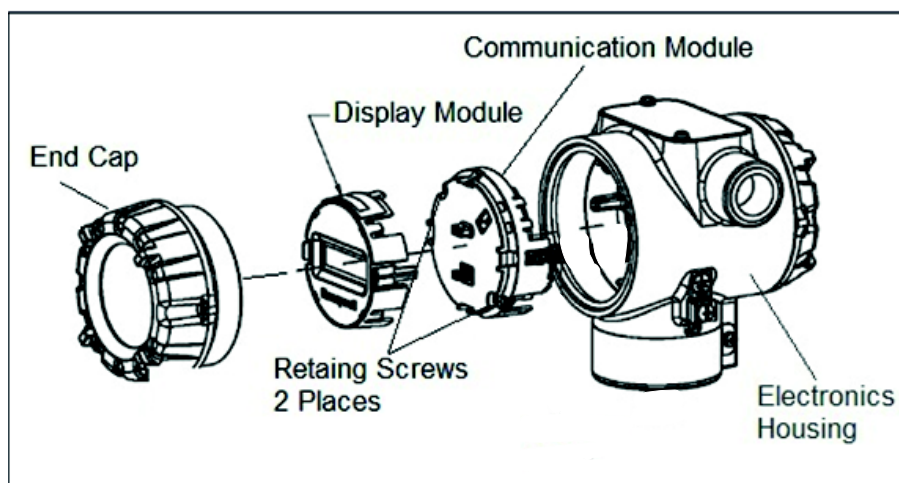

Figure 16 – PWA Replacement
Refer to Figure 16 for parts locations.
15. Install external upgrade label (i.e. DEVICE MODIFIED.....) provided on outside of housing as shown in Figure 16.